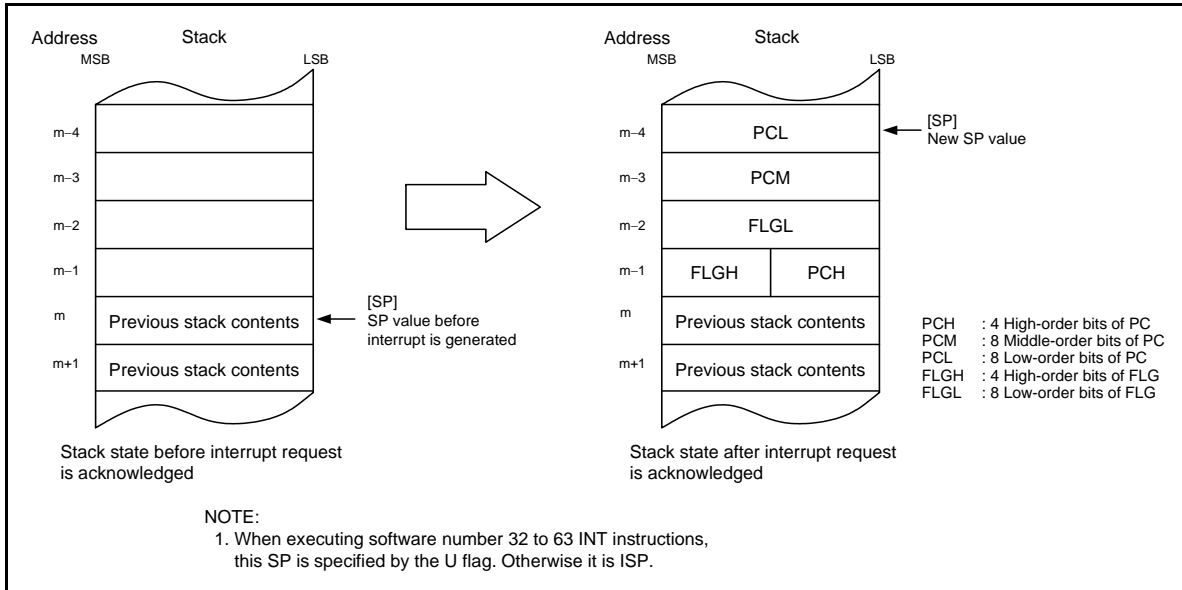

Figure 12.8 Stack State Before and After Acknowledgement of Interrupt Request
In the interrupt sequence, the FLG register and PC are saved to the stack. After an extended 16 bits, 4 high-order bits in the PC and 4 high-order (IPL) and 8 low-order bits in the FLG register, are saved to the stack, the 16 low-order bits in the PC are saved. Figure 12.8 shows the Stack State Before and After Acknowledgement of Interrupt Request. The other necessary registers are saved by a program at the beginning of the interrupt routine. The PUSHM instruction can save several registers in the register bank being currently used(1) with a single instruction.